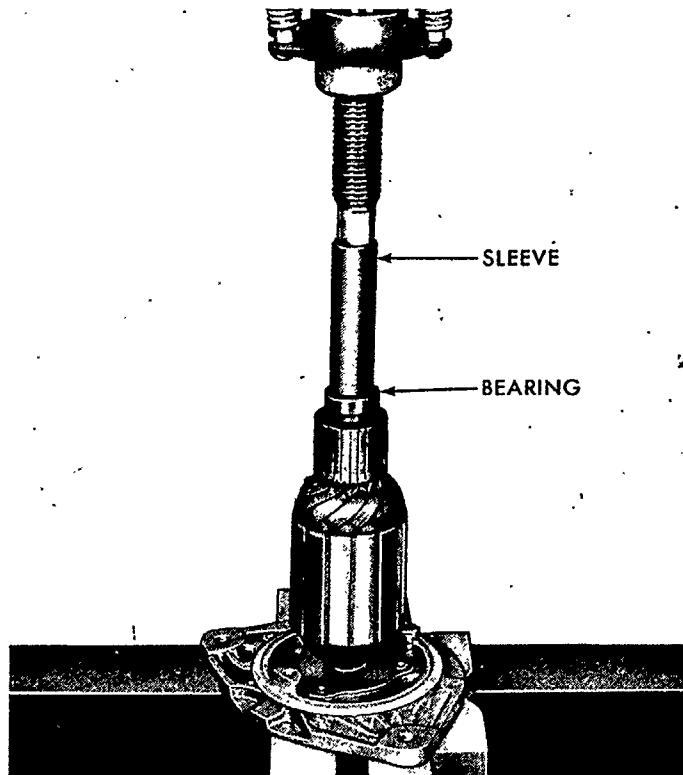

Figure 18
- c. Install a new commutator end bearing as shown in Figure 18.